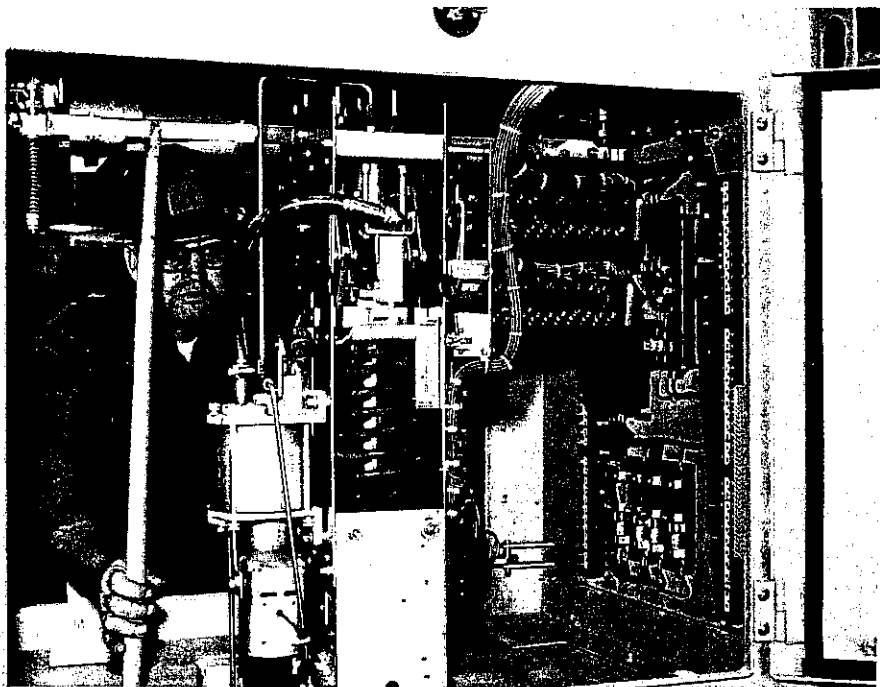

Figure 6. Maintenance-positioning wrench permits manual rotation of jackshaft for blocking pin removal or for maintenance checks.
- B. Use maintenance-positioning wrench as illustrated (Figure 6).